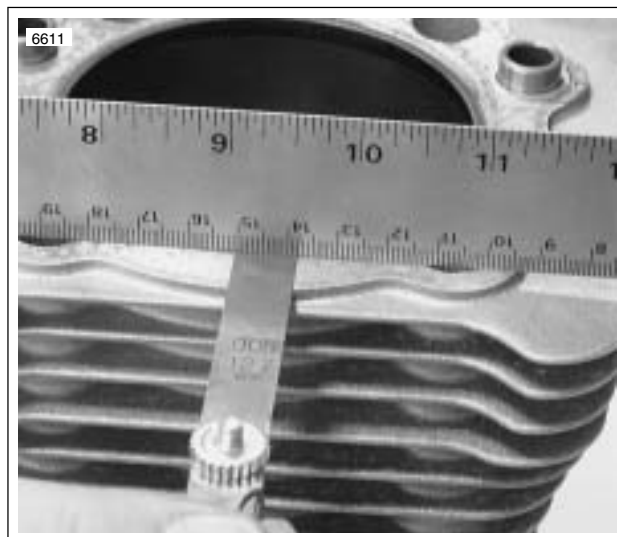

Figure 3-93. Checking Gasket Surfaces
1. See Figure 3-93. Check cylinder head gasket surface for flatness.